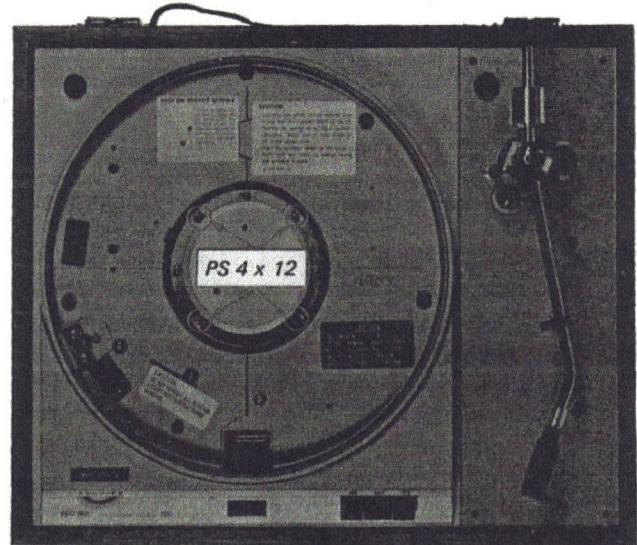

Fig. 2-6. Motor replacement
3. Unsolder the motor lead wires at the terminal strip, and then remove the four screws (PS 4 x 12) from the top as shown in Fig. 2-6.